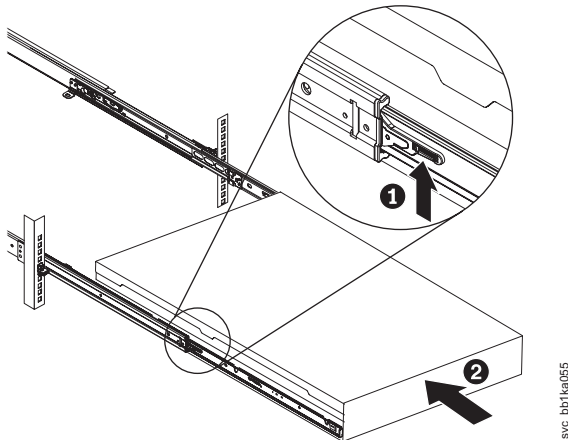

Figure 292. Raising the SAN Volume Controller 2145-CF8 or 2145-CG8 locking levers of the slide rails of the rack
18. Lift the locking levers ( **1** in Figure 292) on the slide rails and push the server **2** all the way into the rack until it clicks into place.